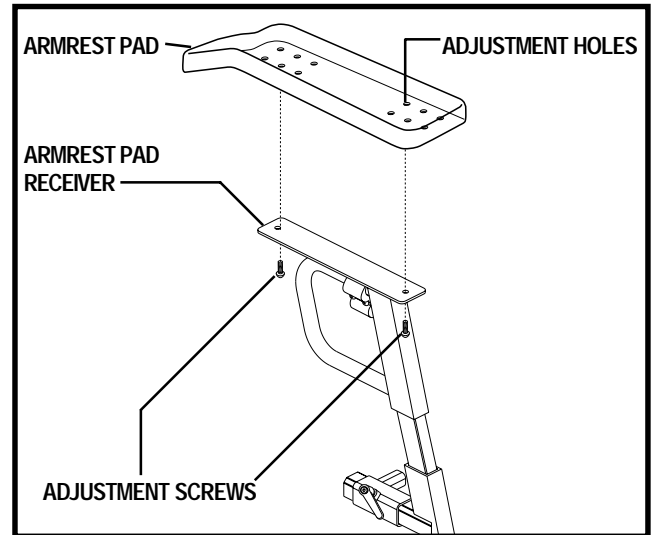

Figure 12. Armrest Pad Position Adjustment
1. Remove each adjustment screw from the underside front and back of the armrest pad. See figure 12.